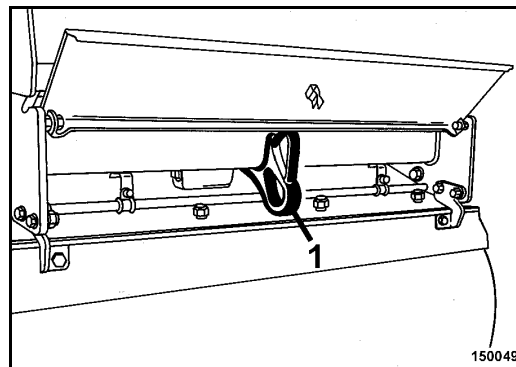

Fig. 103
- Tow the machine by the front or rear towing eye 1 (Fig. 103).